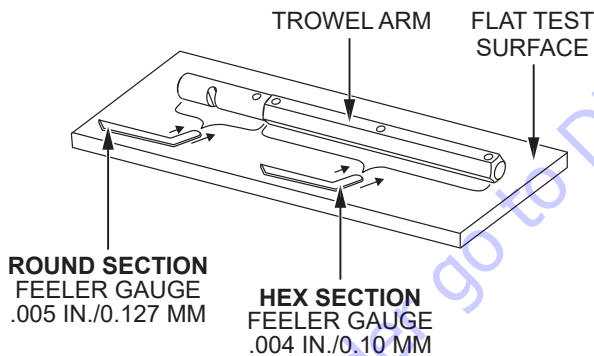

Figure 66. Trowel Arm Inspection
1. Place the trowel arm on a thick, steel plate, granite slab, or any other surface which is **true and flat** (Figure 66).
2. Check each of the six sides of the trowel arm hex section (Figure 66). A feeler gauge of .004 inch (0.10 mm) should not pass between the flat of the trowel arm and the test surface along its length on the test surface.
3. As the flat hex section rests on the test surface, use a feeler gauge of .005 inch (0.127 mm) to check the clearance between the round shaft section and the test surface. Rotate the arm to each of the flat hex sections and check the clearance between the round shaft and the test surface. The clearance between the round shaft and the test surface should be identical for each hex section. See Figure 66.